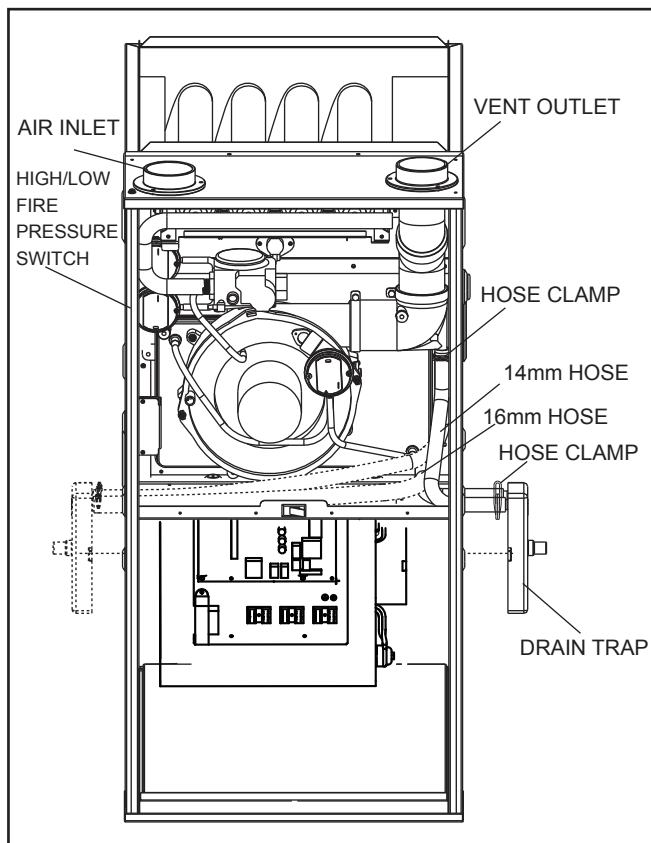

Fig. 11 - Upflow Installation, Top Venting
### 1. Top venting (see Fig. 11)
- Connect 16mm hose between collector box and trap and connect 14mm hose between elbow and trap. (see Fig. 11). Cut the excess hoses if necessary.